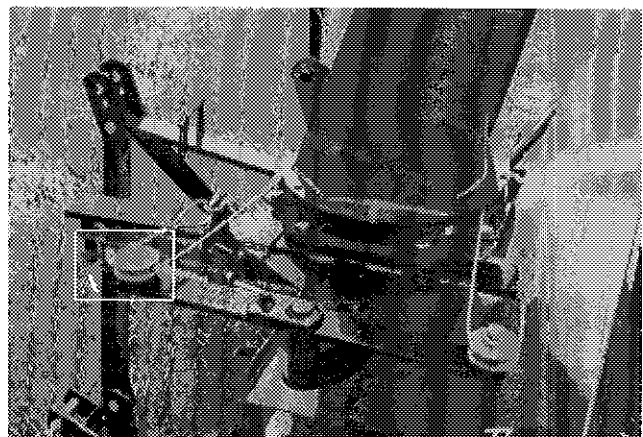

Figure 26
- 5) Pull other end of cable counterclockwise around the chute, then around pulley (A Fig. 26), loop through clevis and secure with wire clamp.